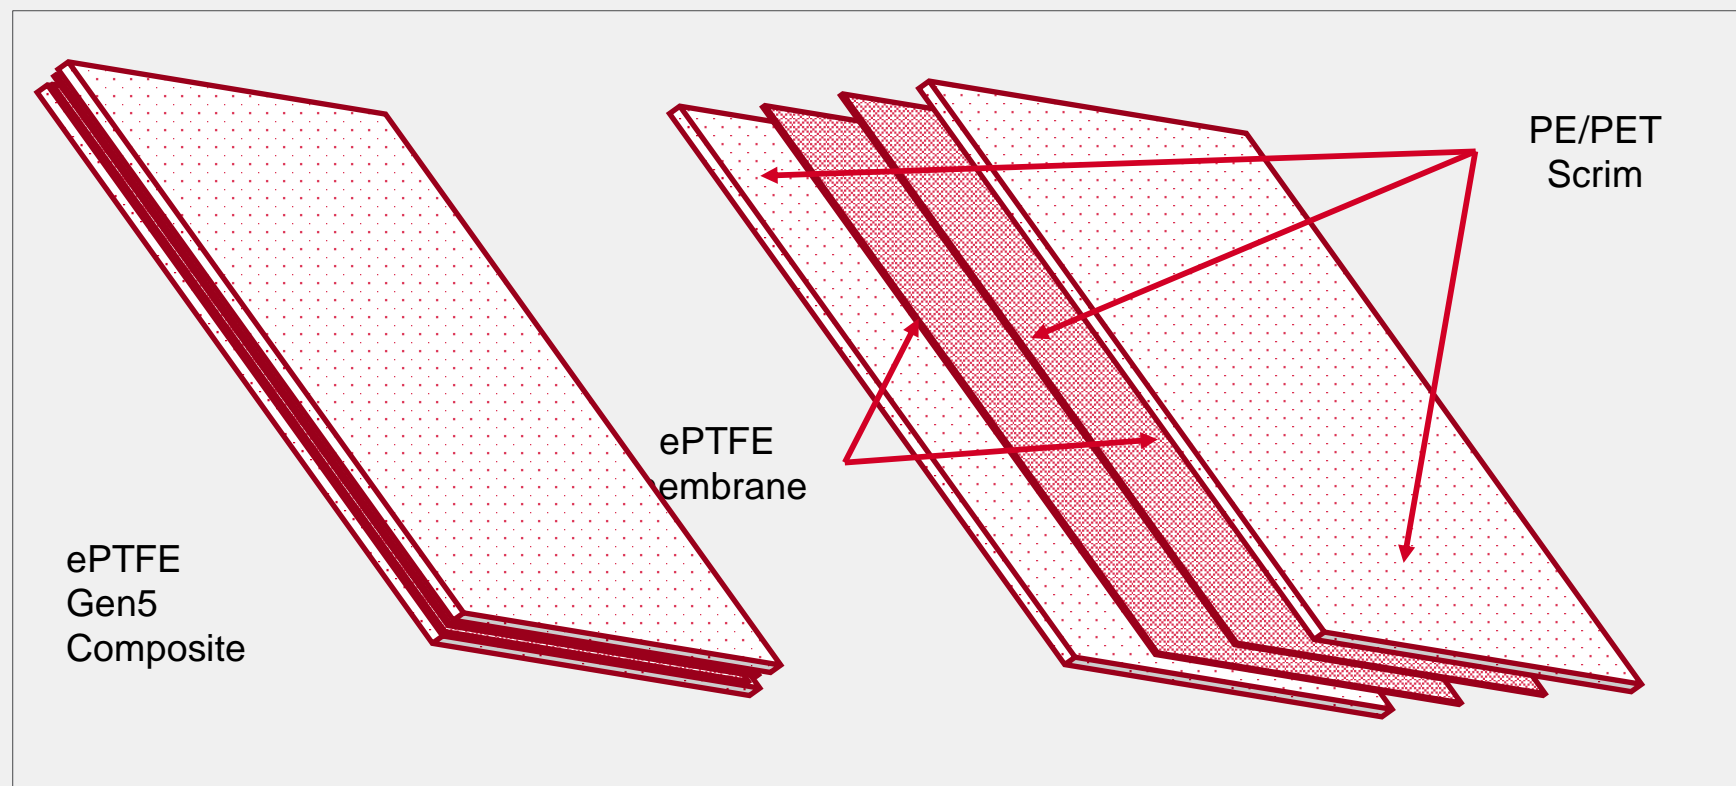

Figure 5: Schematic of ePTFE Gen 4 membrane structure with the 4 different layers
- ▶ eFRM is a 4 layer composite with 2 layers of PE/PET (Polyethylene/Polyethylene Terephthalate) Scrim one layer each on air entering side and air leaving and 2 layers of the eFRM membranes in the middle as shown in figure 5. Both layers of scrim have a basis weight of 40 gsm with an overall basis weight of 90 gsm. The composite media is uni-directional. The eFRM membrane on the air entering side is more open giving the media a gradient density.